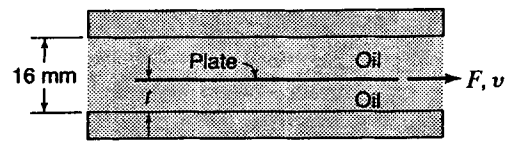

Figure X2.11.8
- 2.11.8 A space 16 mm wide between two large plane surfaces is filled with SAE 30 Western lubricating oil at 35°C (Fig. X2.11.8). What force  $F$  is required to drag a very thin plate of 0.4-m2 area between the surfaces at a speed  $v = 0.25$  m/s (a) if this plate is equally spaced between the two surfaces? (b) If  $t = 5$  mm? Refer to Appendix A.